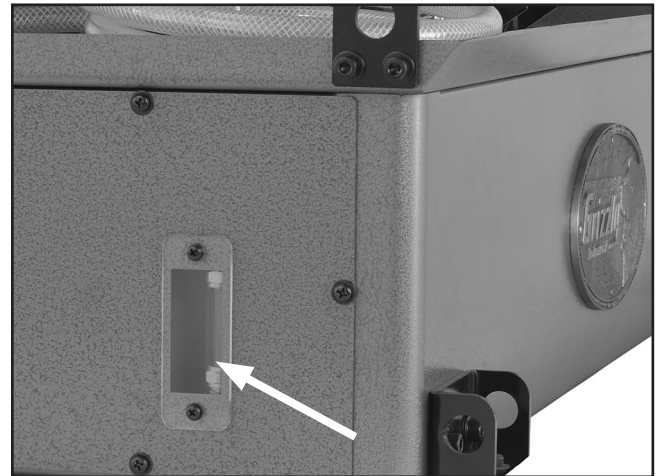

Figure 28. Coolant level sight glass.
- Monitor the coolant level frequently to keep the system working properly. **DO NOT** let coolant level fall out of view on the sight glass (see **Figure 28**).